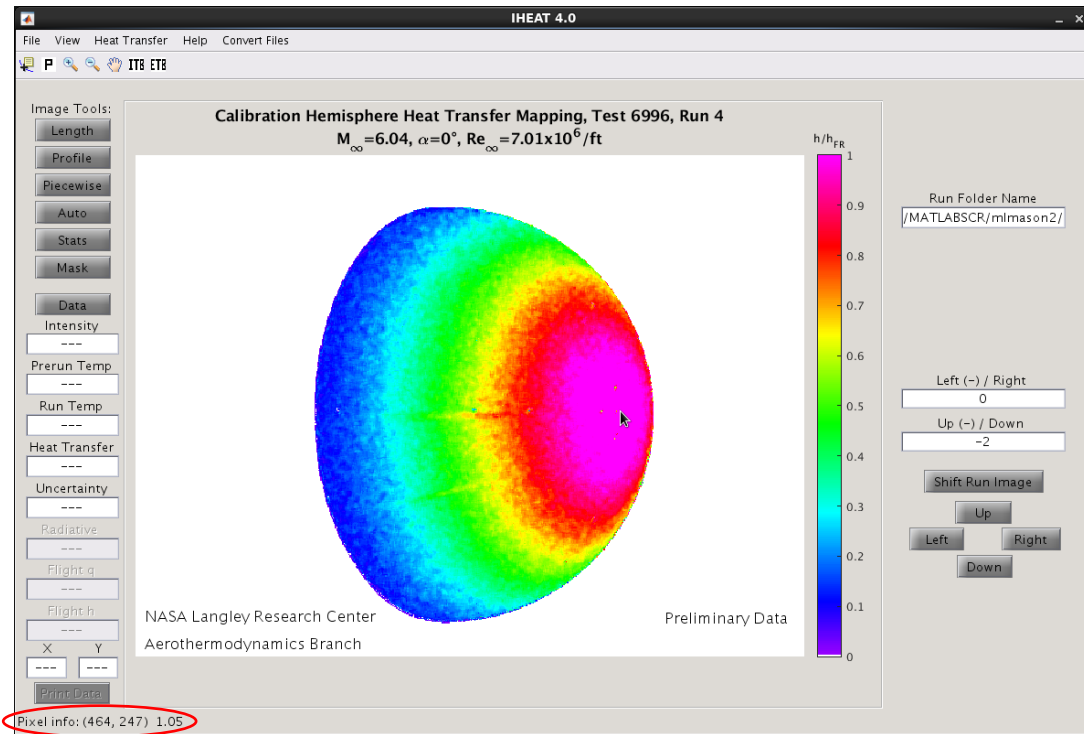

Figure 11: Toolbar Menu, *Pixel Information*.
2. The white icon with a black “P” in the toolbar is the *Pixel Information* tool. When the user clicks on this tool, the pixel information appears in the lower left corner of the user interface, as circled in red in figure 11. As the user moves the cursor over the image, the pixel information is updated. This tool displays data for the current image to two decimal places of accuracy per the default settings of the scripting language in which the software is compiled. In the *Length*, *Profile*, *Piecewise*, *Auto Profile*, *Stats*, and *Mask* tools, the *Pixel Information* tool is activated to show the user the pixel location of the cursor as the lines, points, or rectangles, respectively, are drawn.